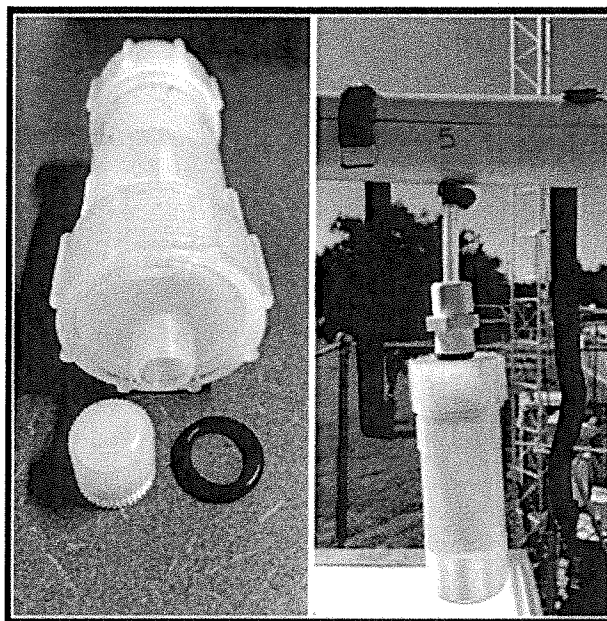

Figure 5: Multi-Res cartridge attached to the sample inlet.
- 3.1.1.3 Unscrew multi-residue cartridge end caps. Place black rubber O-ring over the inlet port of cartridge and screw in the top (smaller) part of cartridge to the plastic threaded fitting (Figure 5).